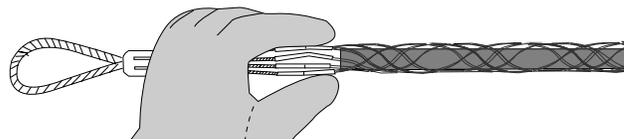

Figure 6
**4.7** Compress the basket so that it is no larger than the combined OD of the grip and cable (Figure 6).